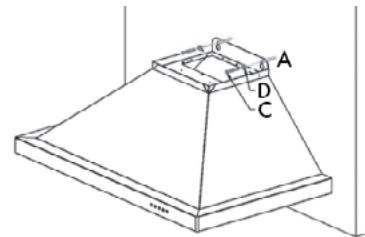

Figure 2
2. Drill holes into each mounting point with a suitable sized bit. Tap 2 anchors (A) into the holes, then fasten 2 mounting screws (C) and washers (D), making sure to leave the screw heads out roughly 1/4" (6 mm) in order to mount the hood. *Figure 2*
3. Using at least two people, mount the main body of the hood onto the two screws and slide into place. *Figure 2*